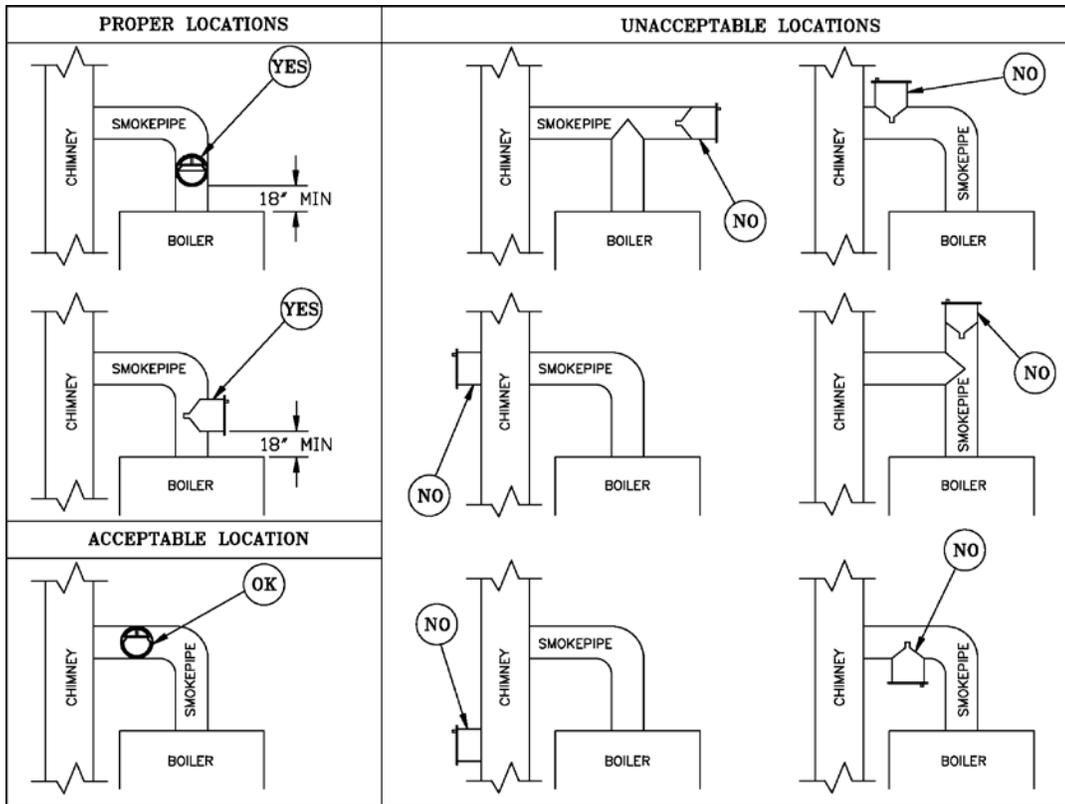

Figure 18: Proper and Improper Locations of Draft Regulator
1. Install a draft regulator (supplied by installer) following the instructions furnished with the regulator. See Figure 18 for draft regulator locations.